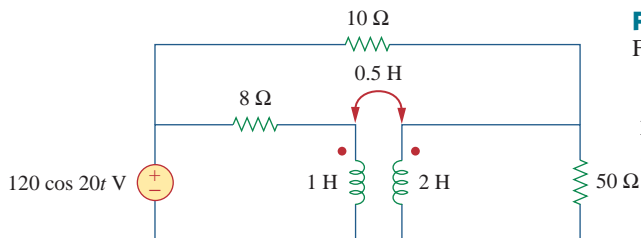

Figure 13.96
13.27 Find the average power delivered to the 50-Ω resistor in the circuit of Fig. 13.96.